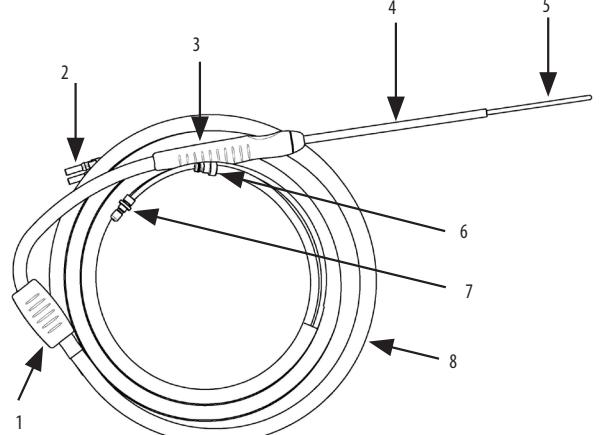

FIGURE 2 PROBE CONNECTIONS TO ACM
4. With the CONSOLE in READY Mode (see Figure 4), connect the PROBE Connectors to the CONSOLE Ports as follows (see Figure 2):